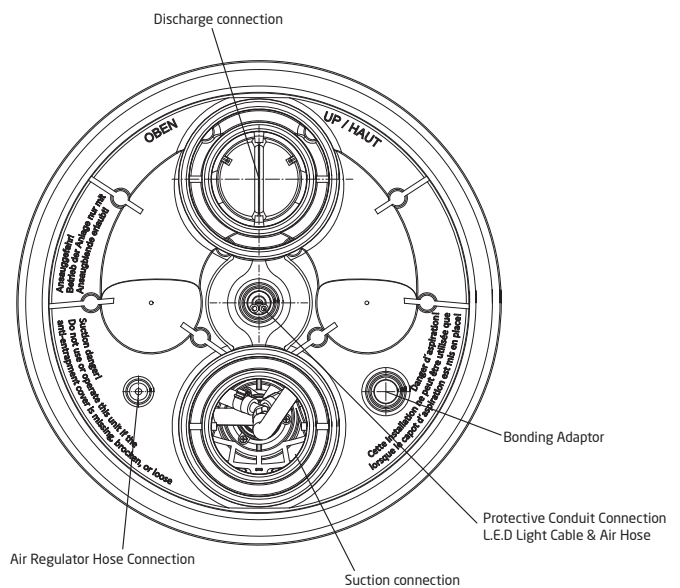

Figure 11
2. Install the protective conduit (refer to Figure 11 on page 14 & Figure 20 on page 17):
3. Install the air regulator hose (refer to Figure 11 on page 14 & Figure 20 on page 17):
CAUTION: Locate discharge connector directly **ABOVE** the suction connection. Discharge and suction connectors must be exactly vertical or the stainless steel handles will not align properly. (See Figure 11)